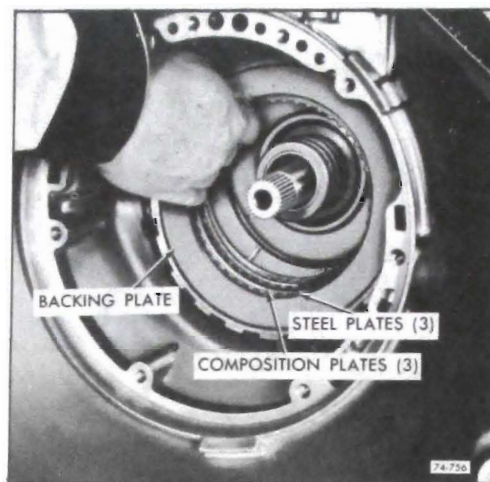

Figure 76-756
12. Lubricate with transmission fluid and install three (3) steel and three (3) composition intermediate clutch plates. Start with waved steel and composition and steel clutch plates. See Figure 76-756.